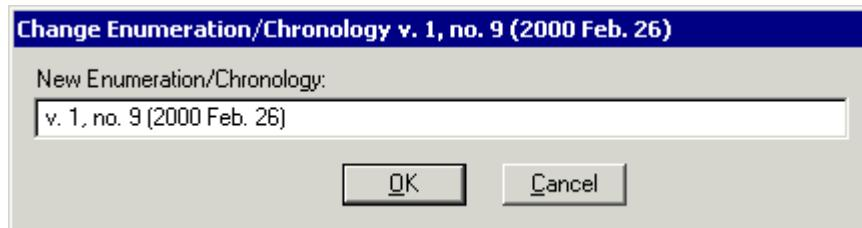

Figure 9-30. Change Enumeration/Chronology dialog box
2. Click the **Edit Issue** button. The **Change Enumeration/Chronology** dialog box opens (see Figure 9-30).